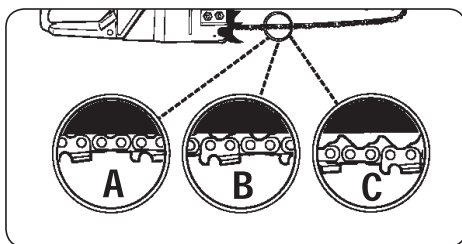

Fig. 4A
If saw chain is too loose or too tight, the sprocket, bar, chain, and crankshaft bearings will wear more rapidly. Study Fig. 4A for information concerning correct cold tension (A), correct warm tension (B), and as a guide for when saw chain needs adjustment (C).